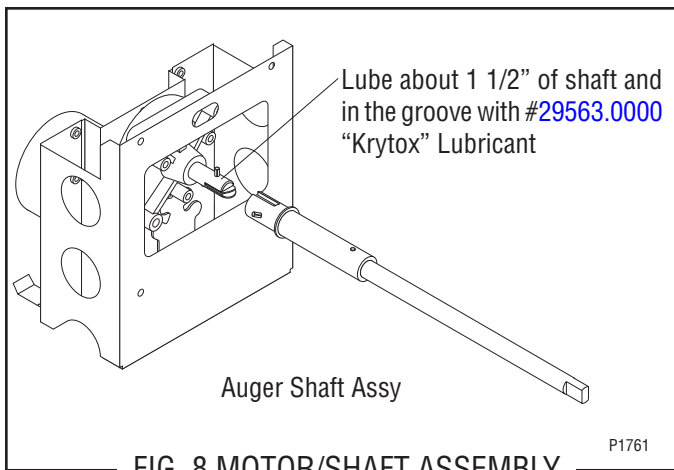

FIG. 8 MOTOR/SHAFT ASSEMBLY
13. Place a small amount of #29563.0000 “Krytox” lubricant (provided in kit in a plastic cap) on the end of the motor shaft (about 1 1/2”) and a thin film in the groove. Install auger shaft assembly onto the motor shaft. See Fig. 8. Do not use too much “Krytox” lubricant.
14. Assemble motor/shaft assembly as shown in Fig. 8, then install assembly into cooling drum. Make sure the pins do not hit the sensor board and cooling drum seal is not dislodged as the shaft passes through.